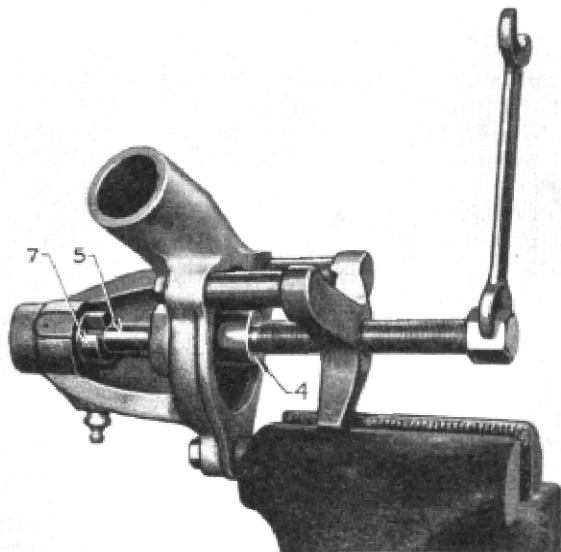

Figure 9
(10) Fig. 9—Put a new oil seal on the shaft (5) and put the large horseshoe (7) in place in the groove in the shaft. Tighten screw until oil seal is forced into place. Back off screw and remove horseshoe and push shaft forward into roller bearing.